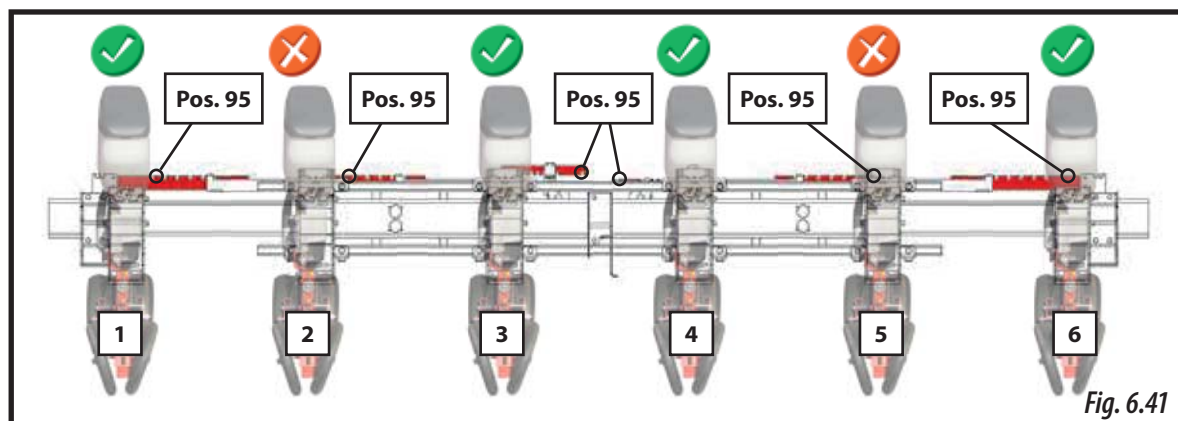

Fig. 6.41
- 1- Exclude the units No. 2 and 5 (Fig. 6.41), see section 6.7 EXCLUDING A METERING UNIT.